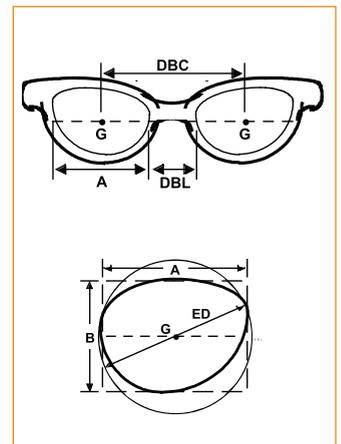

FIG. 2
**A - EYE SIZE** - The horizontal width between the two vertical lines tangent to the edges of a lens—or a box enclosing the lens (Fig. 2). Be sure to consider the depth of the bevel when measuring the frame.